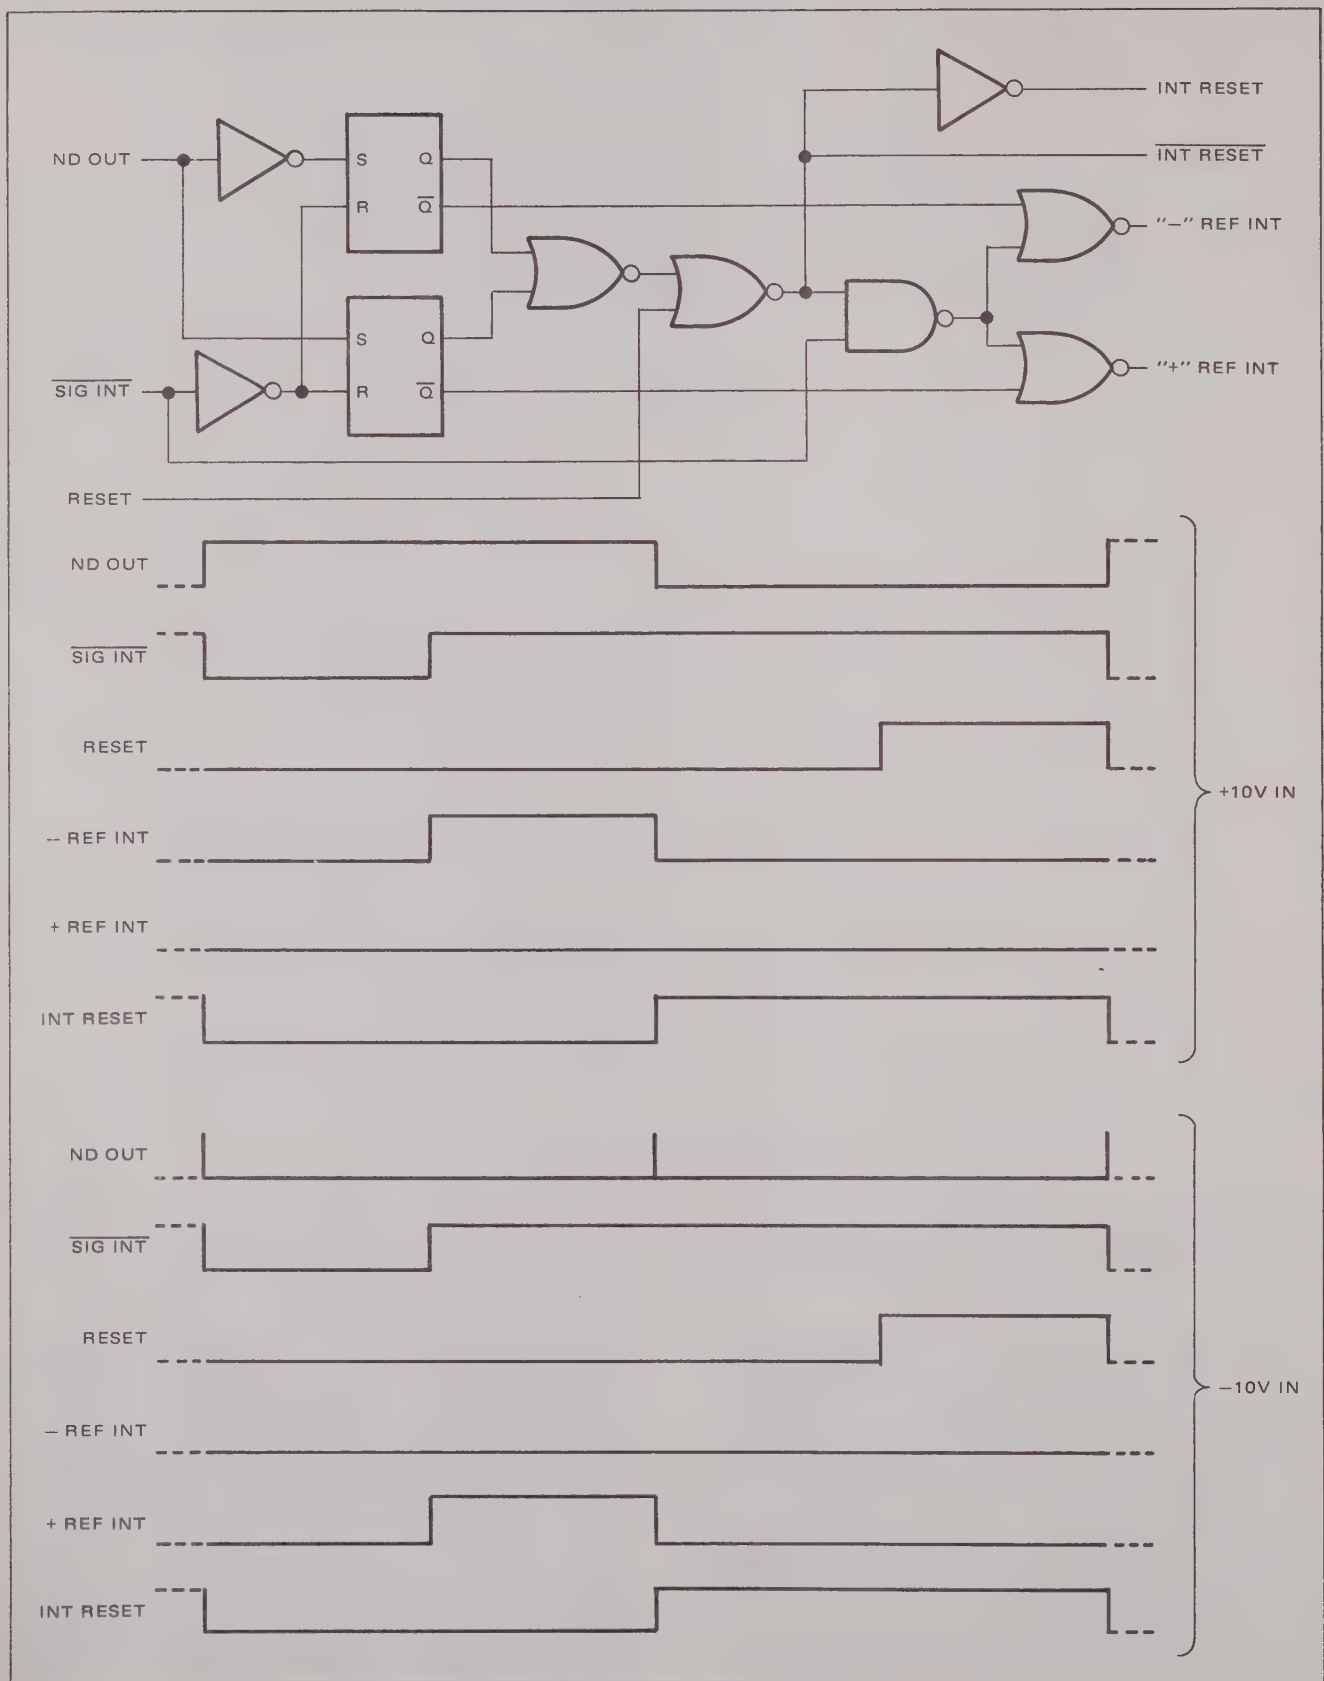

Figure 5.7 - Integrate Logic
5.26 Integrator Logic. This circuitry, shown simplified in figure 5.7 controls the operation of the A/D converter. Timing of the circuitry is included with the figure for + and -10 volts input.